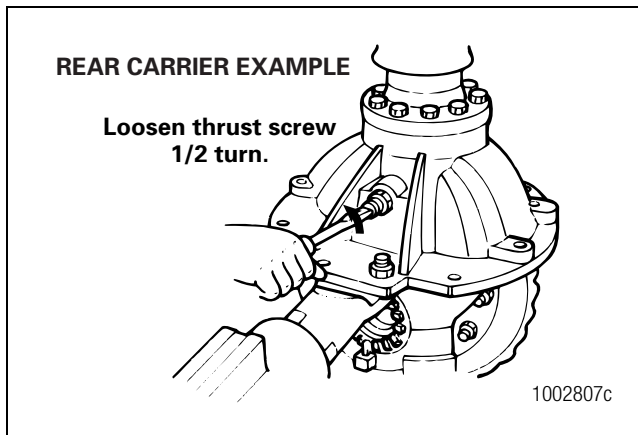

Figure 5.75
- Loosen the thrust screw, if equipped, 1/2 turn or 180 degrees. Figure 5.75.